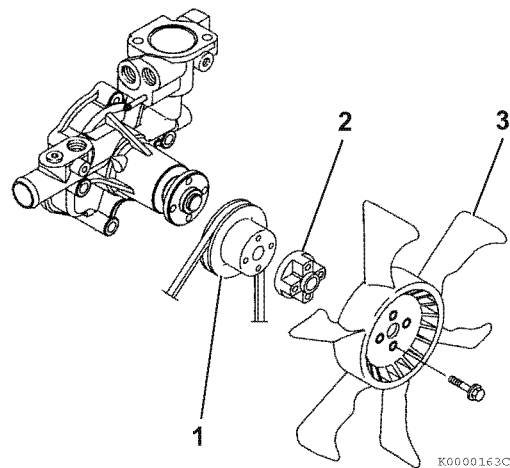

Figure 9-20
5. Reinstall the engine coolant pump V-pulley **(Figure 9-20, (1))**, spacer **(Figure 9-20, (2))**, engine cooling fan **(Figure 9-20, (3))** and engine cooling fan guard (if equipped).